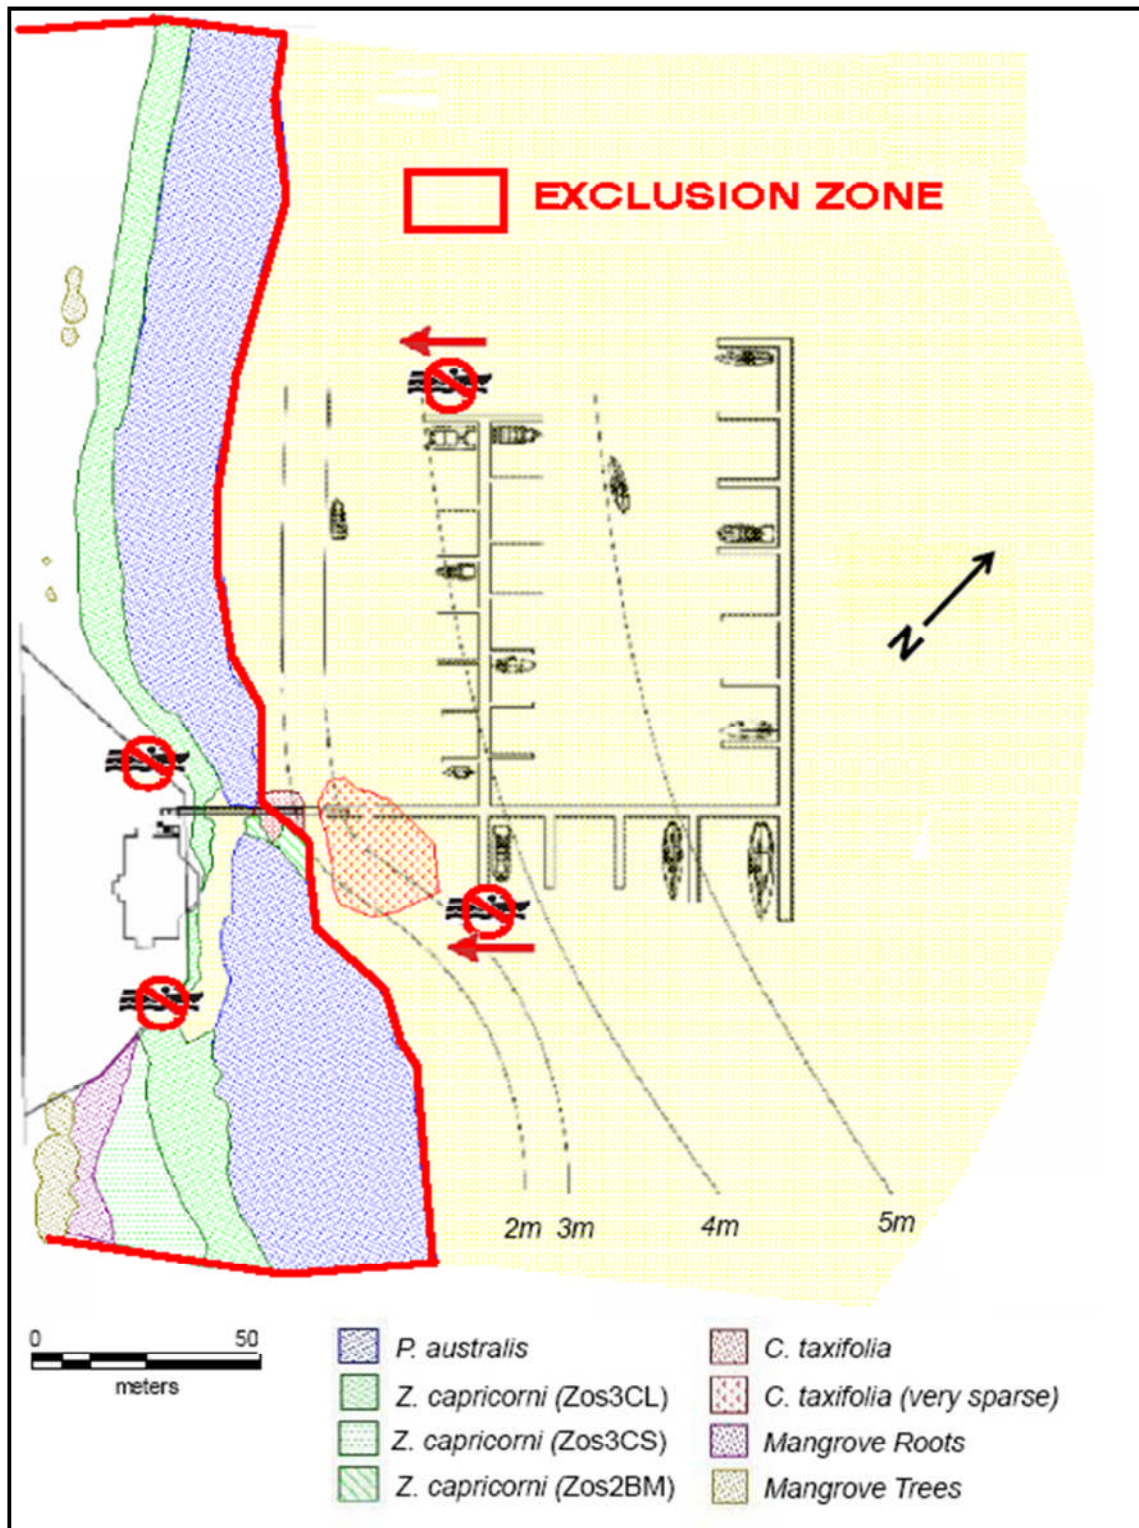

Figure 1: Exclusion Zone to avoid damage to seagrass
- The Marina Manager will ensure that on-shore and off-shore signage, highlighting the presence and distribution of seagrass, and creating an 'exclusion zone' as depicted in Figure 1 below and in accordance with the Signage Plan, is provided.
- Boat owners/lessees are to have regard for the marina vegetation depicted within Figure 1 and are to avoid deploying anchors or navigating over seagrass (*P. australis*, *Z. capricorni* – Zos3CL, Zos3CS, Zos2BM) – known as the "EXCLUSION ZONE".